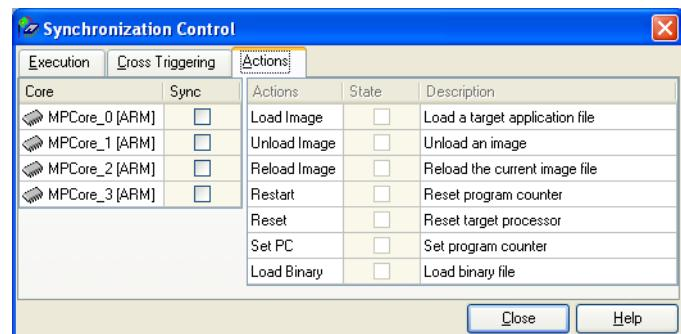

Figure 7-8 Synchronization Control window
1. Select **Synchronization Control...** from the **Target** menu to display the Synchronization Control window. Figure 7-8 on page 7-18 shows an example: